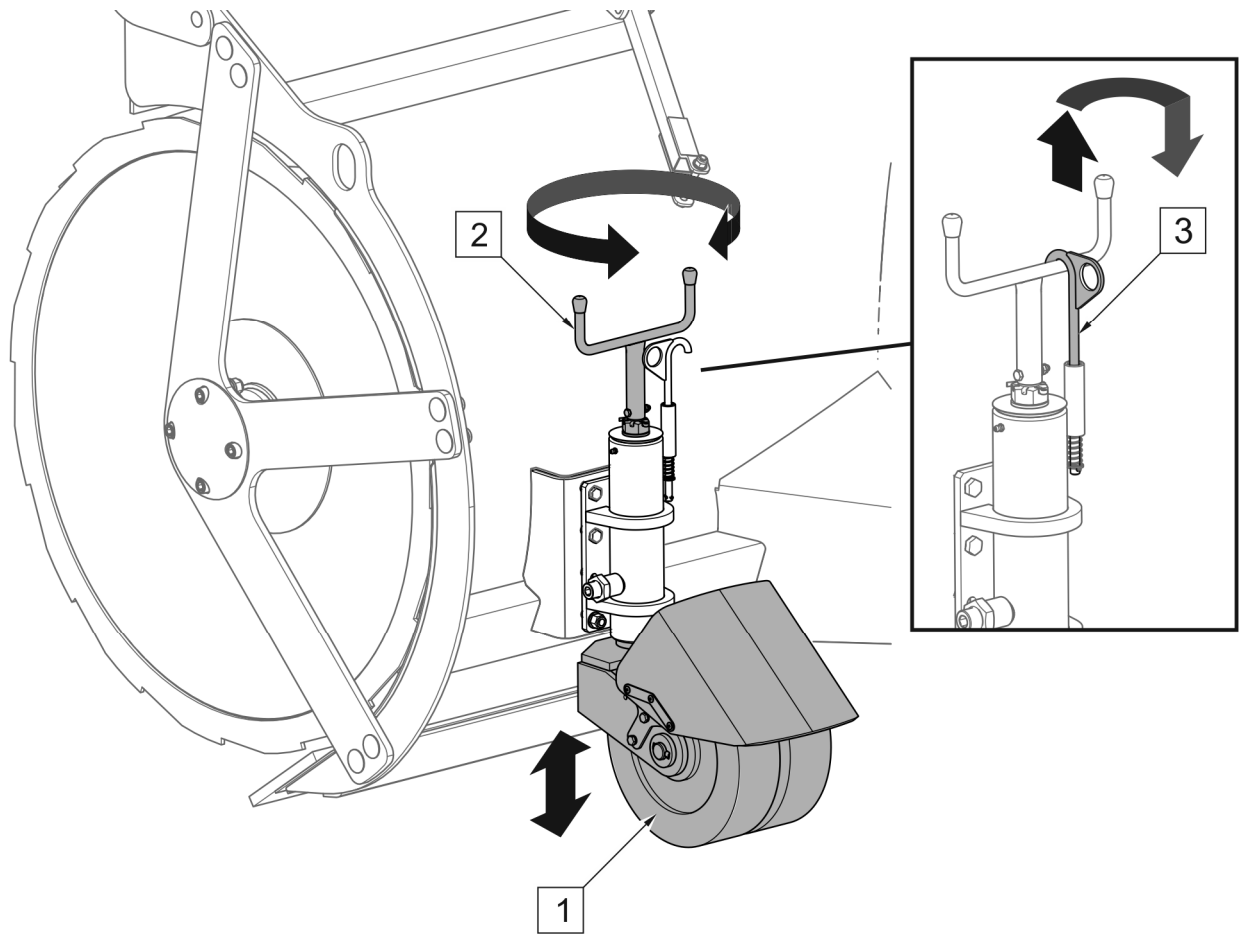

FIGURE 4.13 Working height adjustment in the snow blower equipped with wheels
(1) - wheel; (2) - handle; (3) - handle lock
Working height adjustment in the snow blower equipped with support wheels (FIGURE 4.13) is carried out by proper setting of wheel height. Adjustment of wheel (1) height is performed by means of the handle (2). Before starting the adjustment, lift the lock (3) and remove it from the handle (2). After setting the wheel height, secure the handle (2) again with the lock (3).